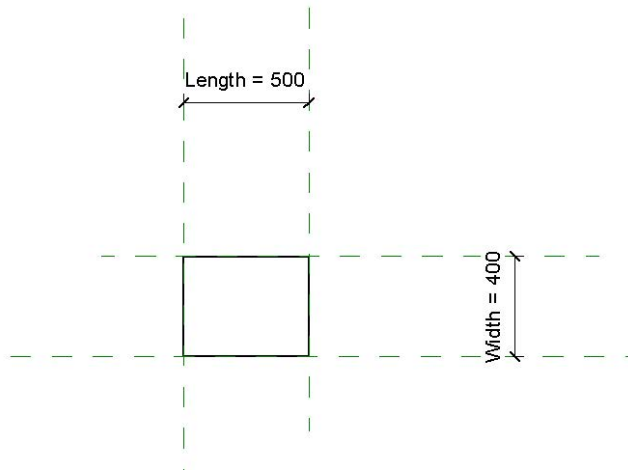

Figure 2: Generic Family Part
In this section you are going to create a simple box shape with adjustable height, length and width. Once this is created you are going to create 3 types of the family and insert an instance of each into a Revit project. The family part should have three (3) reference planes named 'Length', 'Width' and 'Height'. The family types should have the dimensions as shown in the table below. Your completed Revit Family should be named '**RMEP04-***-00-ZZ-M3-M-Pr_20_29_08_08-402-A1-P01.rfa**' and included in your submission folder. Your completed Revit Project should be named 'RMEP04-***-00-ZZ-M3-M-402-A1-P01.rvt' and included in your submission folder. Fig: 2